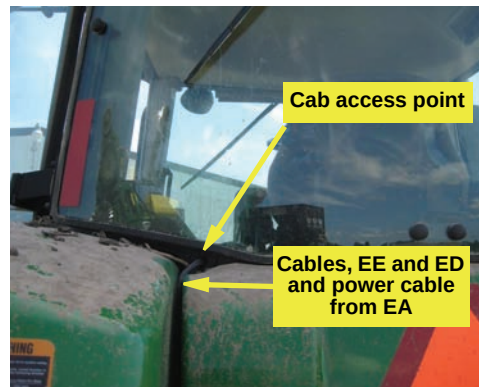

Figure 2b: Cables out from cab
- c. Connect cables **EE** (WAS) and **ED** (valve) to their respective connectors on controller cable **EC** then route them, with the power cable from **EA**, out the back window and down to the left side of the tractor. Route the cables along the frame with existing cables and hoses (Figure 2b).